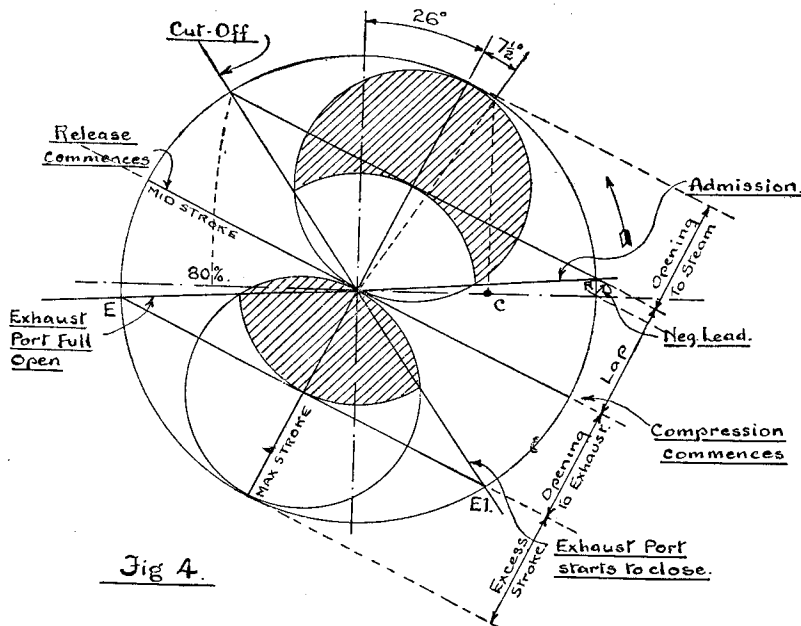

Fig 4.
is really a picture of the valve events, and the first requirements to know for drawing it are : (1) lead of the valve, positive or negative ; (2) required cut-off at full gear ; (3) exhaust lap or inside lead, if any. The valve travel is known, being 0.4 of the cylinder bore, while the lap is about a quarter of the valve travel. We can now describe the valve circle, after putting in the centre-lines as shown in Fig. 4. This circle should be drawn to a scale at least ten times as large as the actual valve stroke. Set off next from the right-hand side of the circle, the cut-off as percentage of the stroke, and erect a perpendicular, produced with a compass set to the radius equal to the length of the connecting-rod ; and where this cuts the circle is the relative position of the crank-pin at cut-off in its circular path. We then mark the lead point at the right-hand side of the circle, and if negative lead is to be given, we mark that above the centre-line ; but if positive, below the centre line, showing that the valve would start to open before the piston is at the end of its stroke. In Fig. 4 it is shown as negative lead ; the piston is then just commencing its stroke, before the valve starts to open to steam. The lead is measured by the small radius R, and then a line is drawn from the crank centre cutting the valve circle where shown touching the rad. R. With this point, and the one where the cut-off line cuts the circle, allows us to obtain the angle of advance  $\theta^\circ$ , by bisecting the two lines somewhere on the valve circumference, gives you the required angle, being measured between the radius of bisection and the vertical centre line. On this angle of advance line, we draw in two valve displacement circles as shown, and the lap of the valve is drawn in with radius equal to the port width where it should meet the point of intersection with the cut-off line and the valve circle, and the radius will also be found to meet at the intersection of the lead radial line as shown.